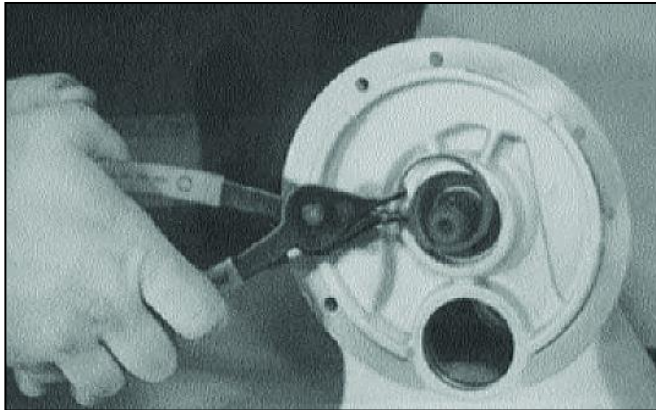

Figure 7-13
16. See Figure 7-13. Remove snap ring (4) from input shaft bore (9).